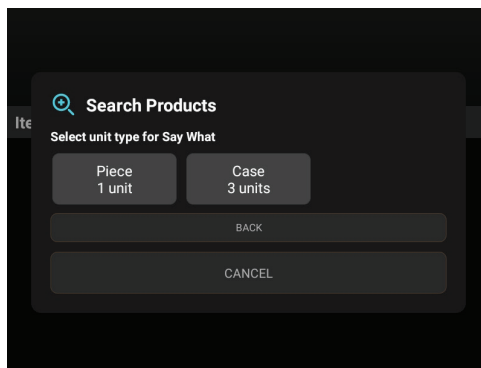

Figure 71
4. Here, you can verify the item quantities and make changes to them as necessary (click on quantity box to make changes) (Figure 71).